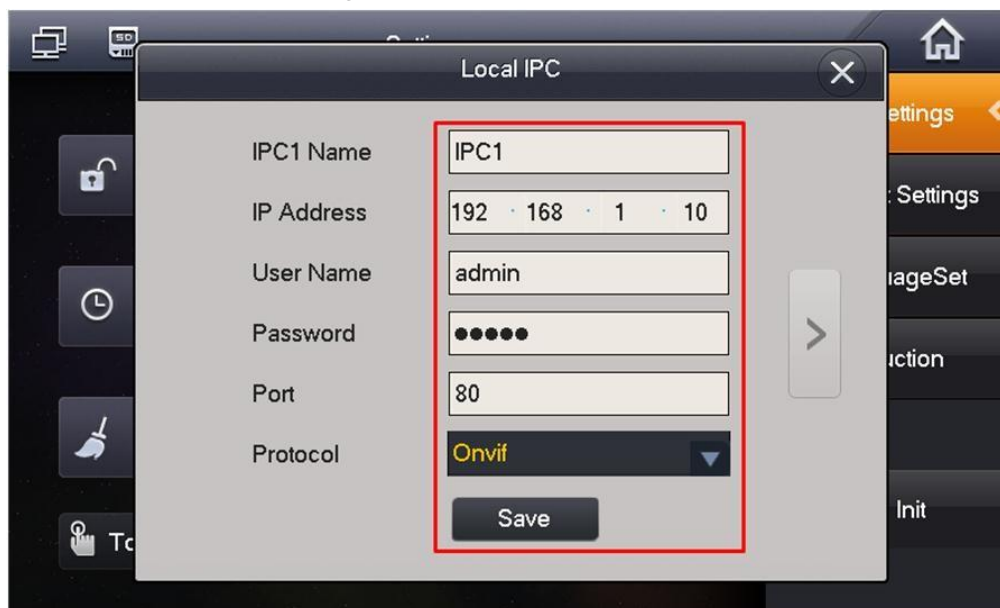

Figure 3-2
On the VTH menu, from Settings-> Local IPC, input network camera name, IP address, port (80), protocol (ONVIF) and then click Save button. User name and password are the account for you to login the network camera. See Figure 3-2.